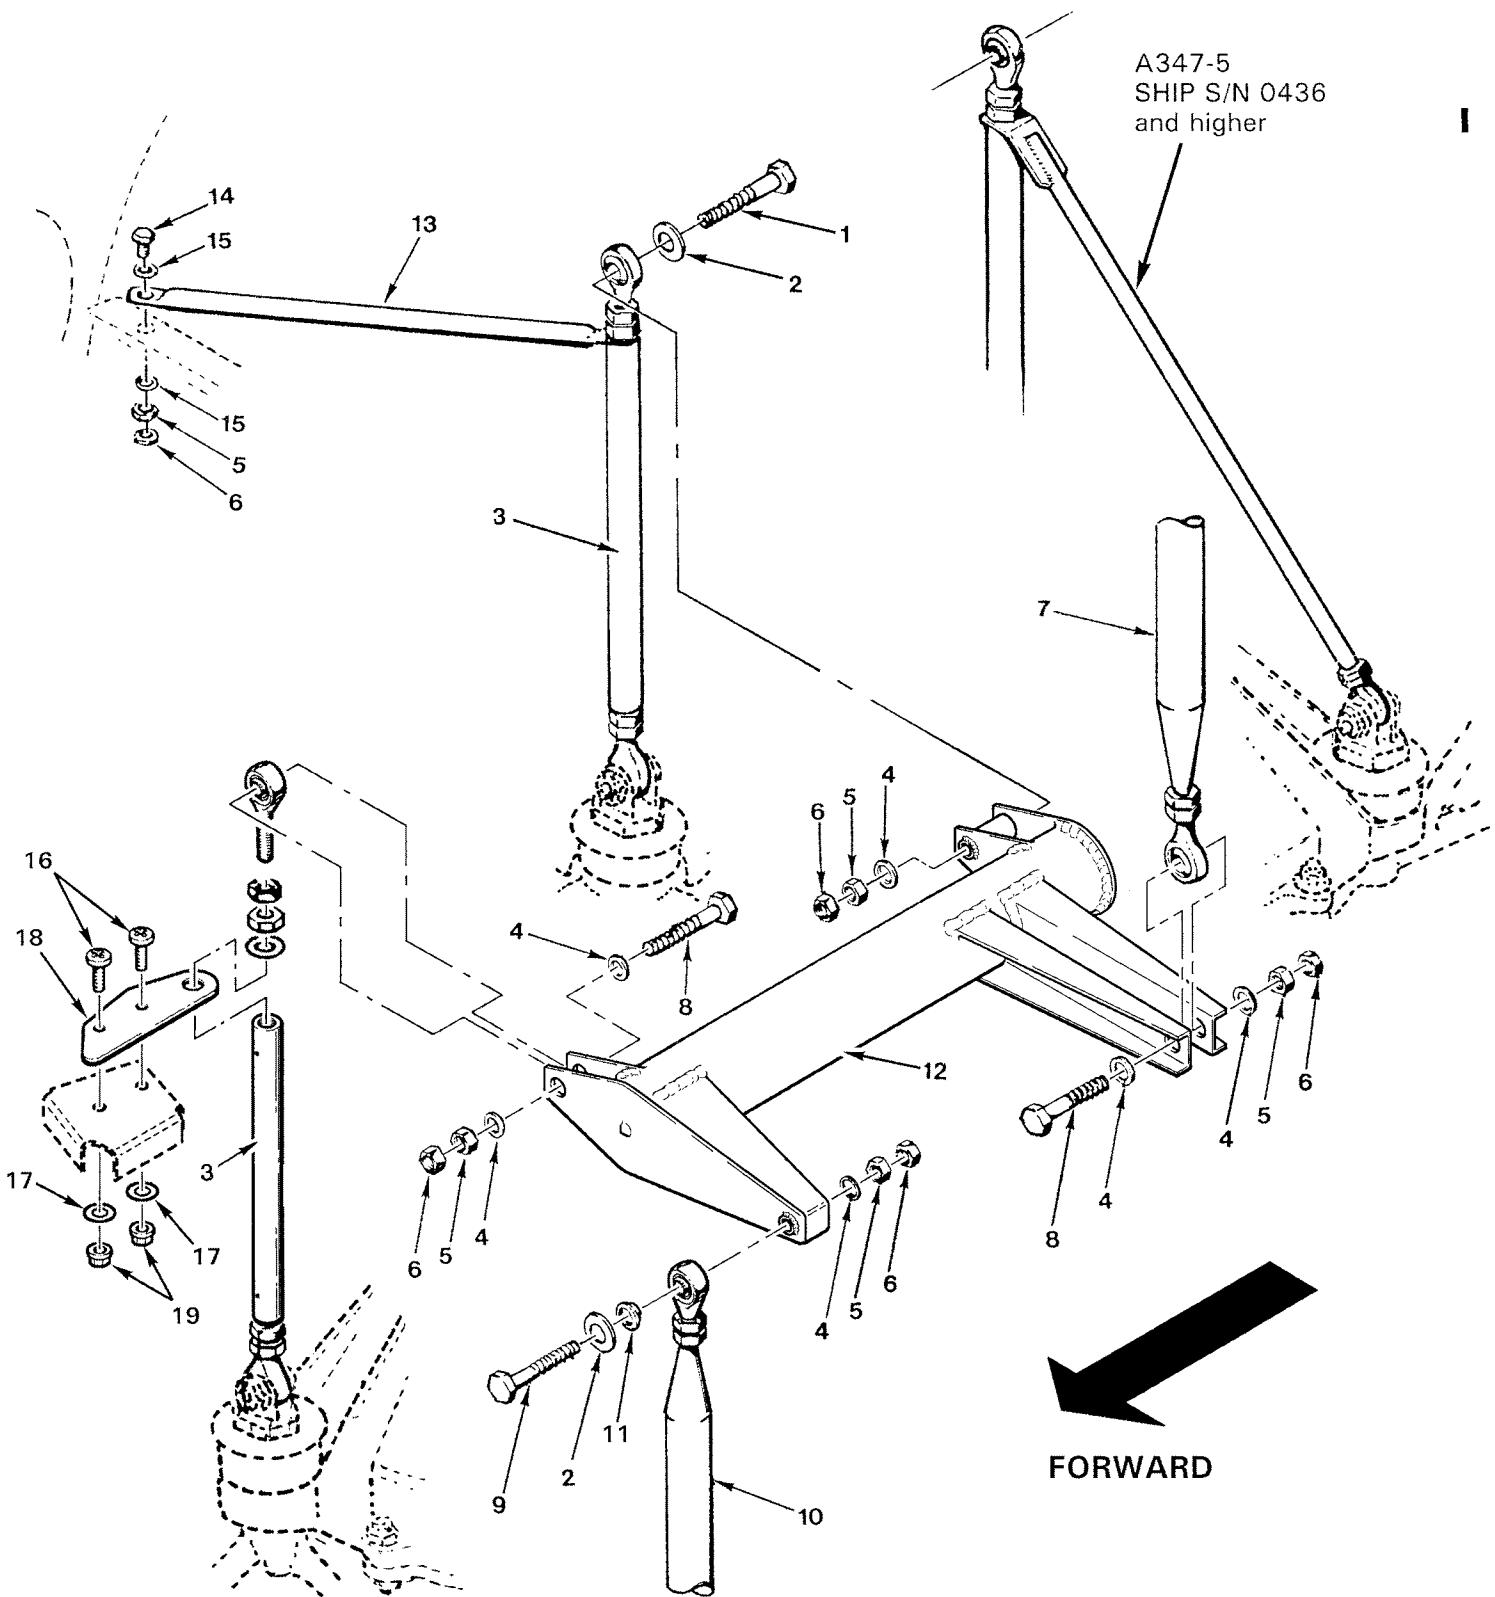

FIGURE 8-9 JACK SHAFT INSTALLATION
8.300 JACKSHAFT AND SUPPORT STRUTS**8.310 Jackshaft (See Figure 8-9)****8.311 Jackshaft Removal****NOTE**